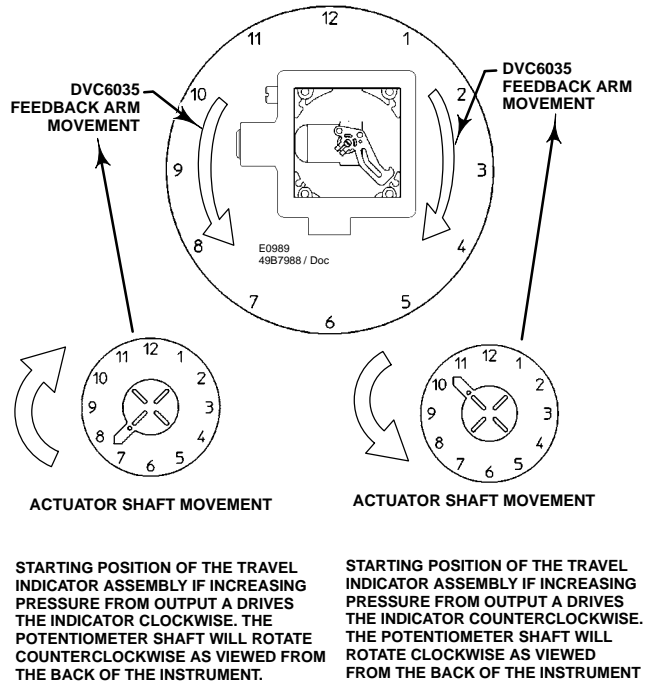

Figure 2-14. FIELDVUE DVC6035 Travel Indicator Installation
4. If required, attach the spacer to the actuator shaft. Refer to figure 2-14. The travel indicator assembly can have a starting position of 7:30 or 10:30. Determine the desired starting position then proceed with the next step. Considering the top of the remote travel sensor as the 12 o'clock position, in the next step attach the travel indicator, so that the pin is positioned as follows: